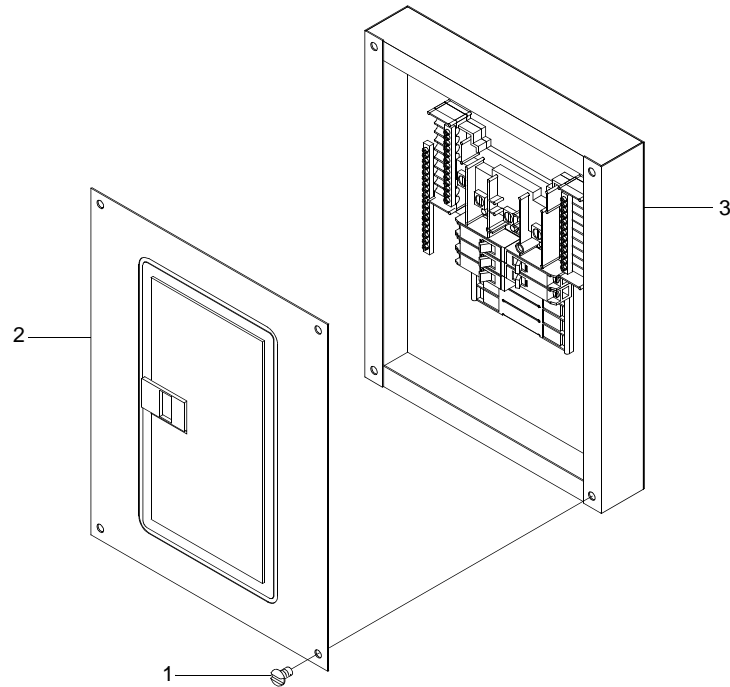

Figure 1. Generator Container Electrical Distribution Panel Access Cover
1. Remove four screws (figure 1, item 1) from panel access cover (figure 1, item 2).
2. Remove panel access cover (figure 1, item 2) from load distribution box (figure 1, item 3).